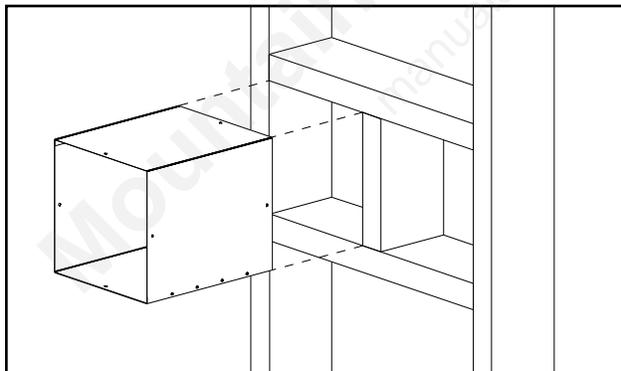

Figure 22. Wall/Ceiling Thimble provided.
A two (2) piece wall/ceiling thimble is included with the stove (see Figure 22).